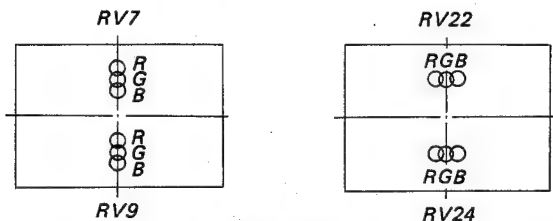

Fig. 1-16.
7. Adjust RV7, RV9 and RV22, RV24 on the DB board to coincide with the R, G and B dots as shown in Fig. 1-16.